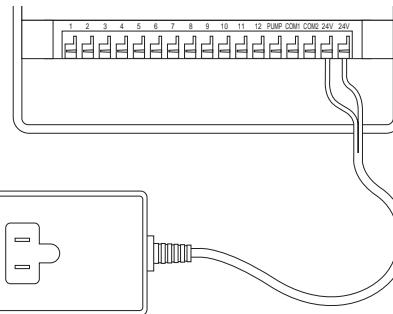

FIGURE 17: Connecting Transformer
- It may be necessary to open the terminal to allow for wire insertion or removal. To do this, simply press upward on the tab located on top of the terminal [See Figure 17].